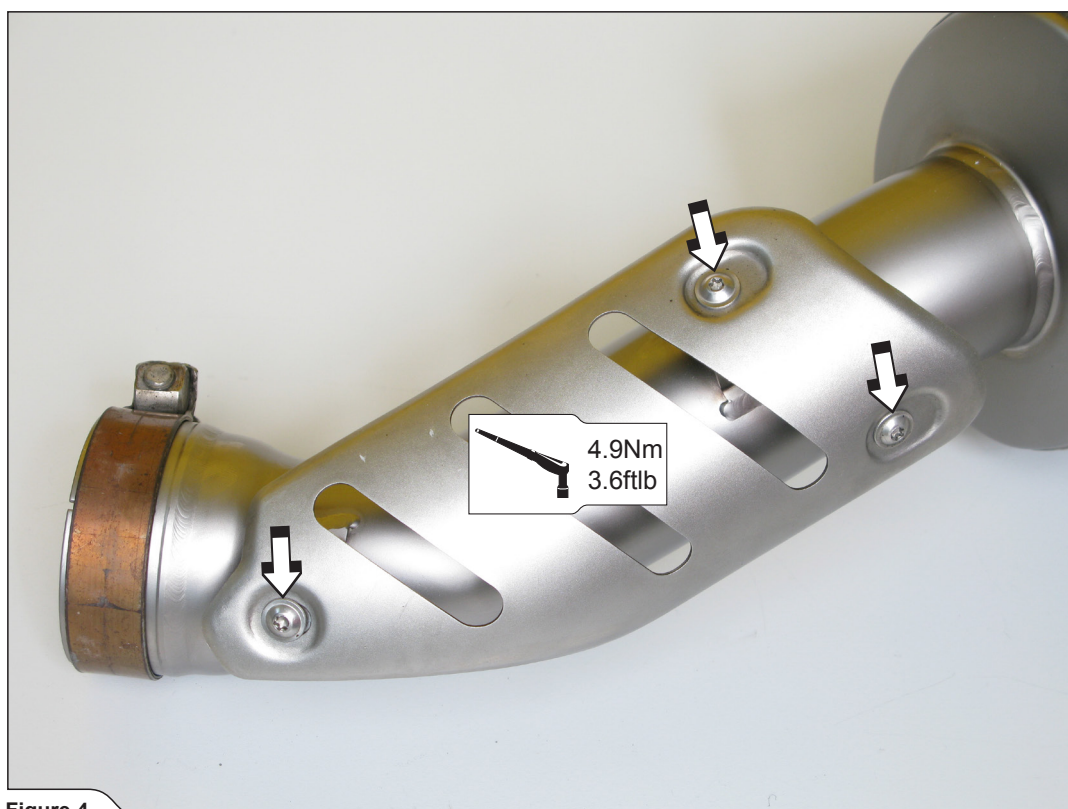

Figure 4
2. Tighten the marked bolts to a specified torque (**Figure 4**).